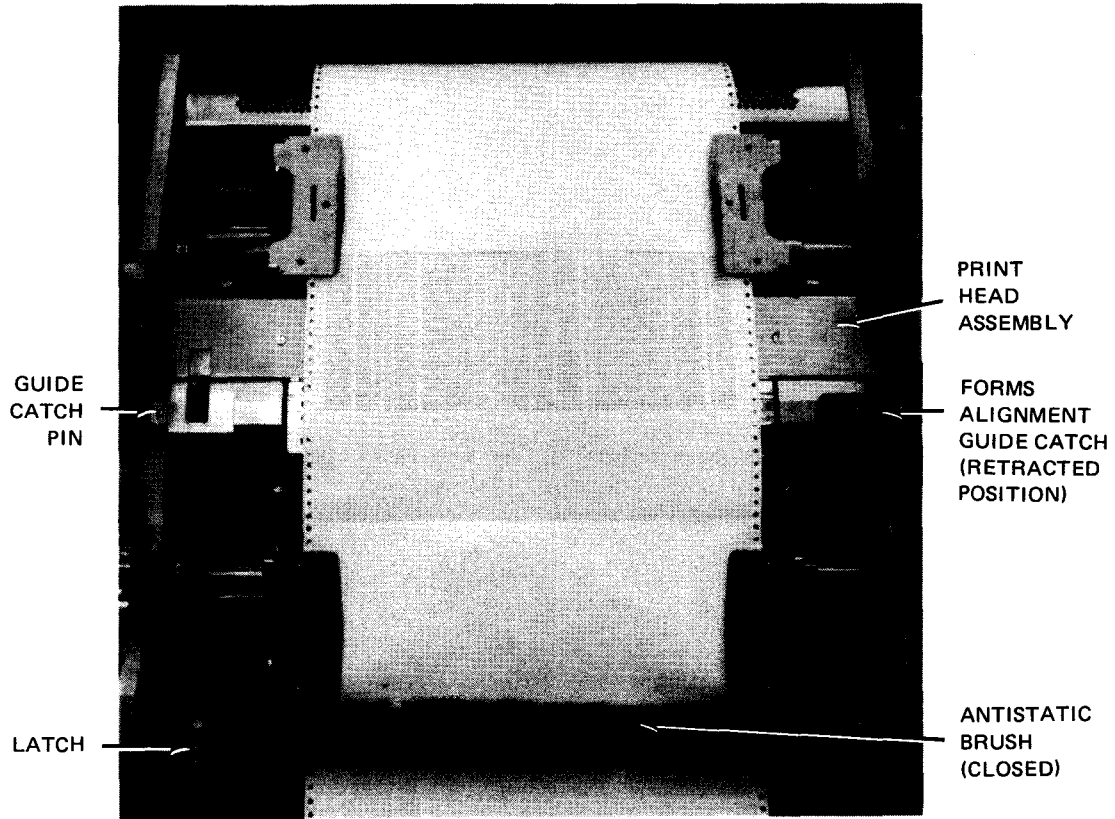
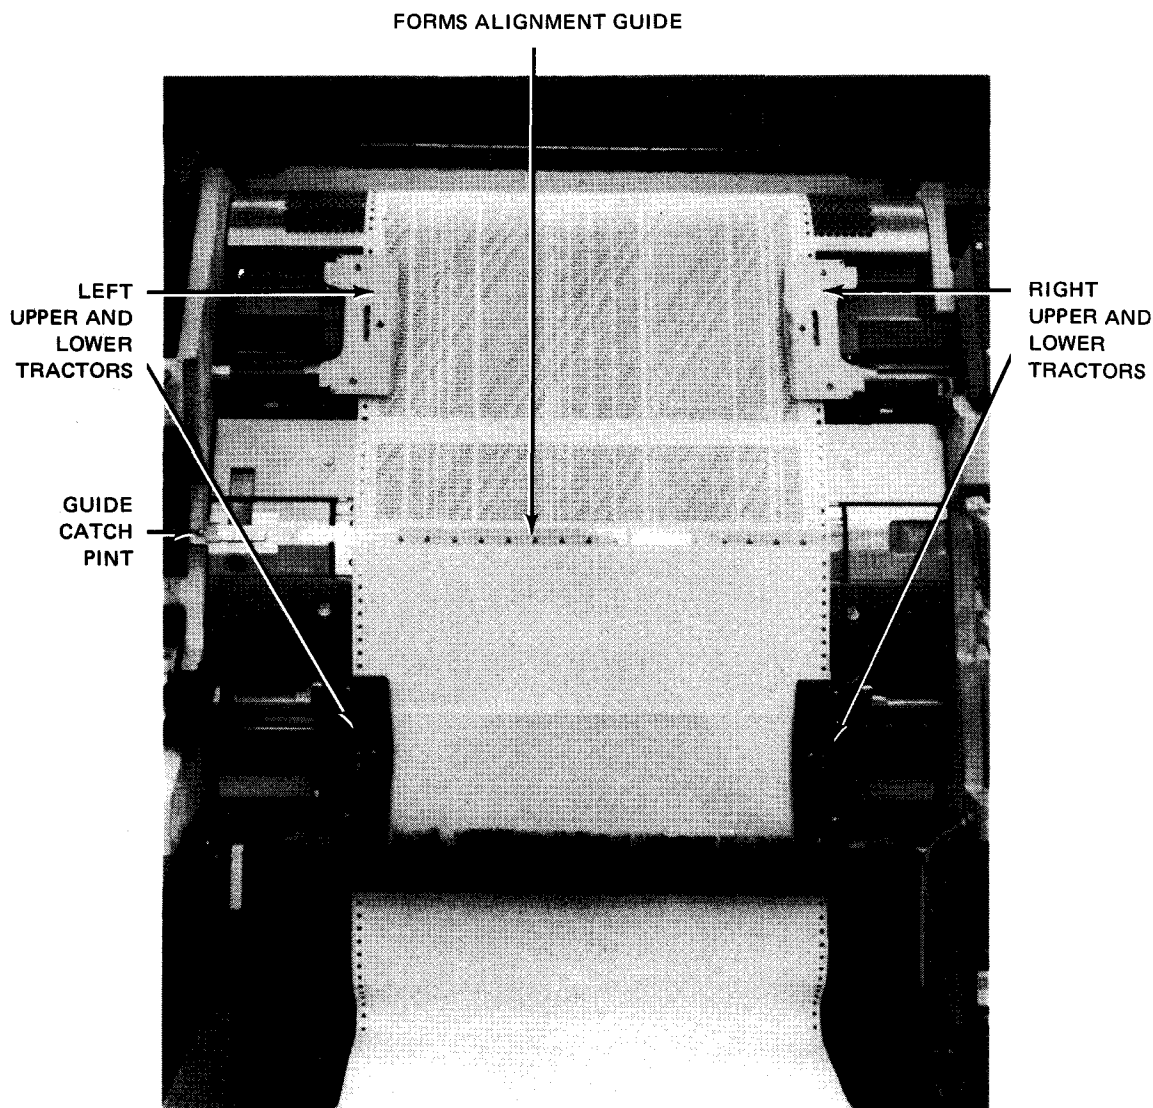

Figure 5-31. Forms Alignment Guide Retracted in Housing
Figure 5-32. Forms Alignment Guide and Tractors
12. Pull out the forms alignment guide from its retracted position (Figure 5-31) and connect the catch to the pin on the left side of the print head assembly (Figure 5-32).
20. Close the antistatic brush (Figure 5-31) and engage the latch so that the brush is firmly positioned against the forms.